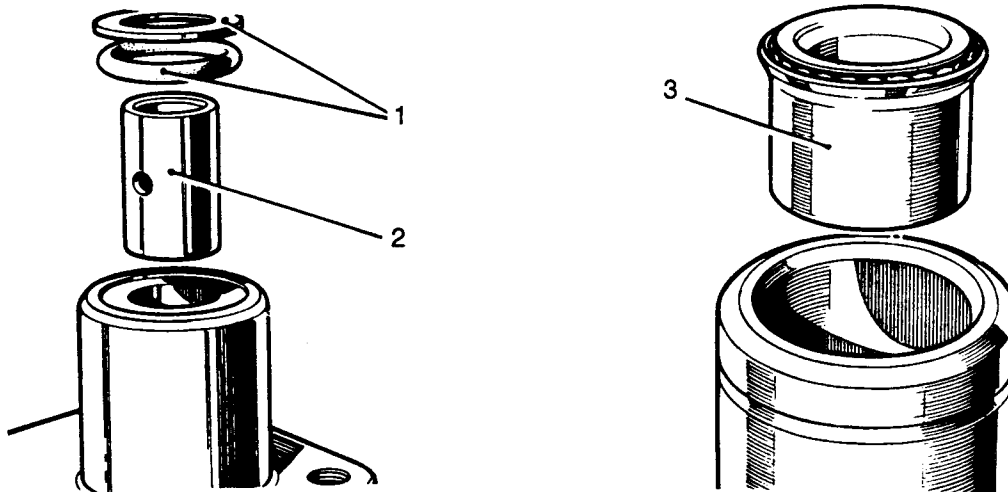

Fig L5.4
(12) Refer to Fig L5.4. Remove the retaining washer and oil seal (1).
(13) If required, press out the rocker shaft bush (2).
(14) If required, remove the outer column top bearing (3).